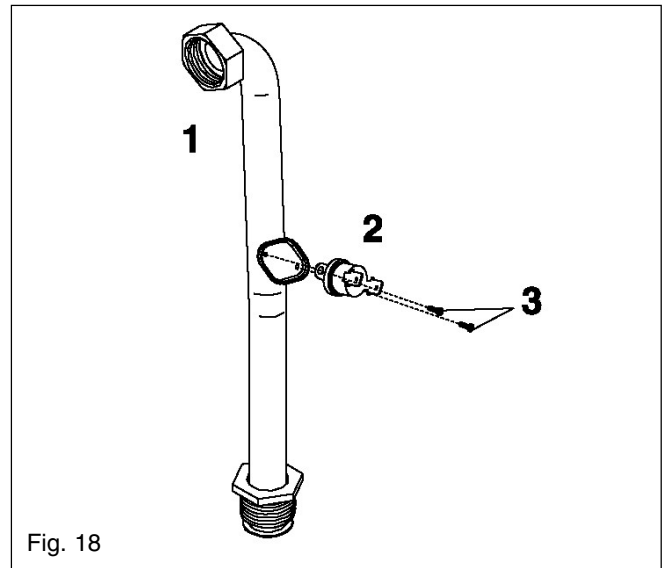

Fig. 18
**6.11 HIGH LIMIT THERMOSTAT fig. 18**